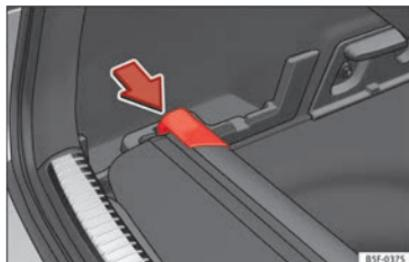

Fig. 167 In the luggage compartment: housing for storing the rear shelf.
- Press the head of the rear shelf in the direction of the arrow until it engages in its housing »» Fig. 167.